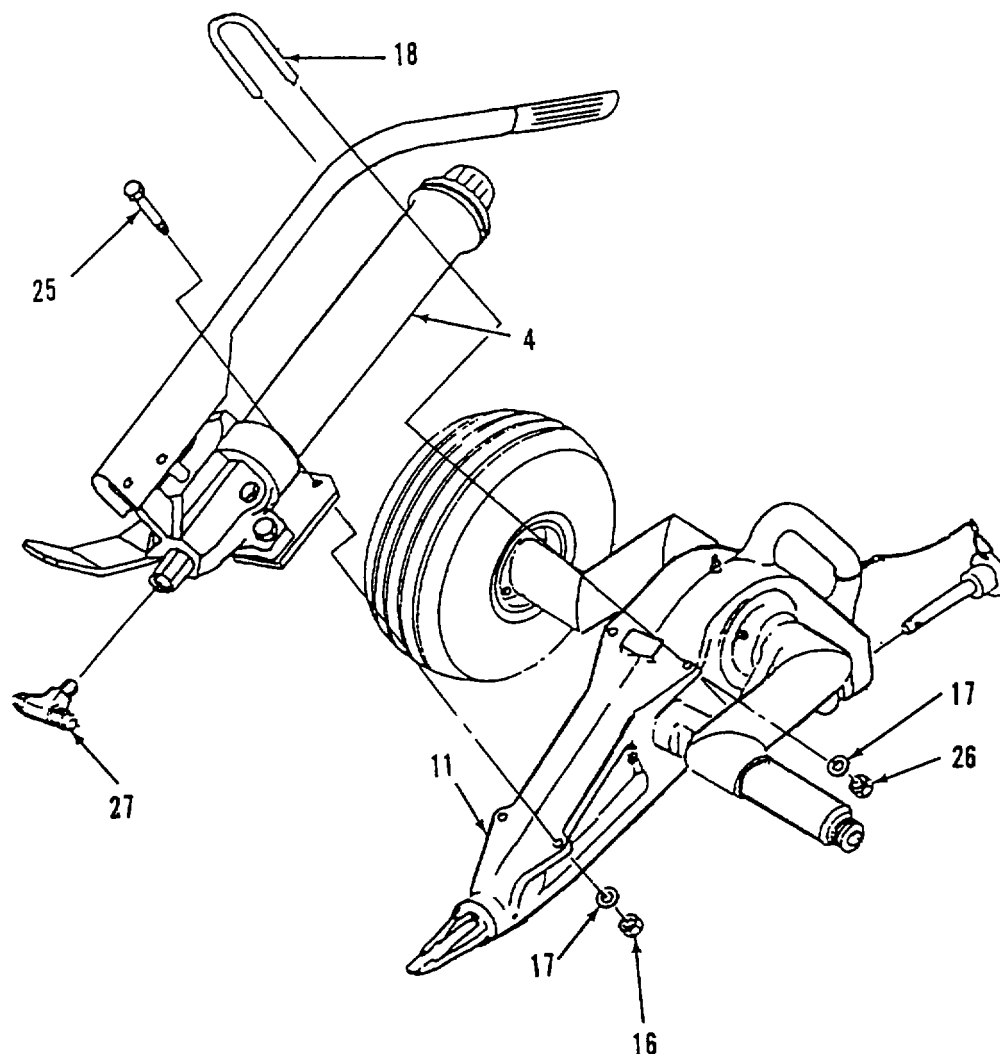

Figure 3-14. Hydraulic Pump, Part No. 61780
6. Refer to figure 3-14 and remove pump (4), with part number 61780, as follows:
- a. Remove two nuts (16) and washers (17) from U-bolt (18).
- b. Remove U-bolt (18).
- c. Remove two nuts (26), washers (17), and bolts (25).
- d. Grasp pump (4) and lift from cradle assembly (11).
Refer to figure 3-14 and Install a hydraulic pump as follows: